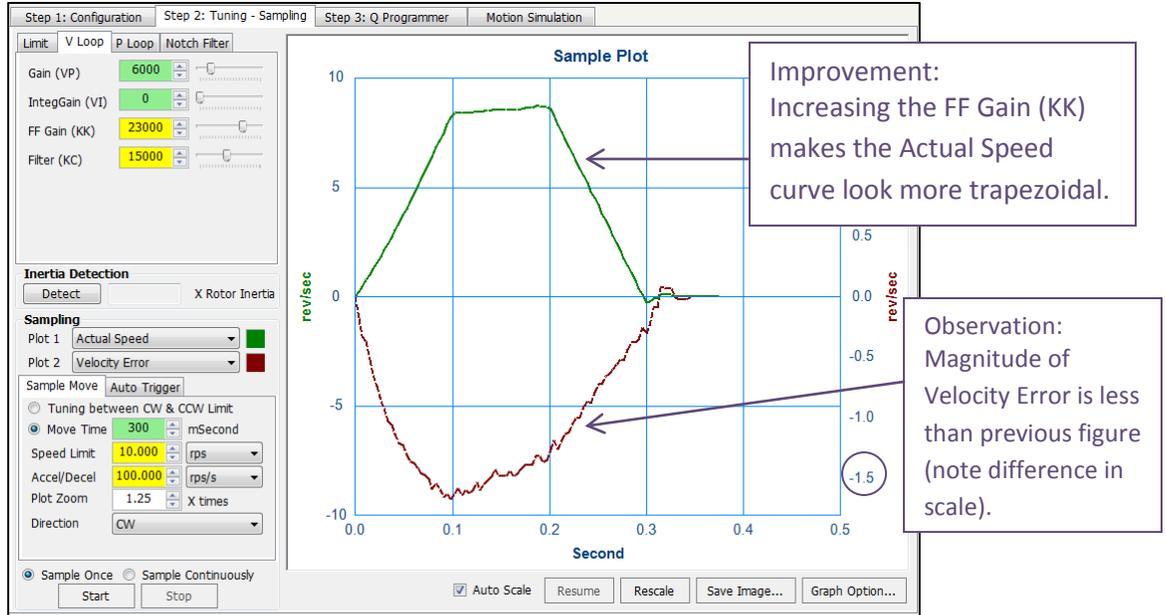

Figure 3b: Actual Speed profile looks more like a trapezoid shape with increased FF Gain
- When the Actual Speed curve starts to have sharpened corners, then begin to increase KI along with KK gradually in an effort to minimize *and* stabilize the Velocity Error (see **Fig. 3b & 3c**)
- Reduce the Filter (KC) value if the motor begins to make noise